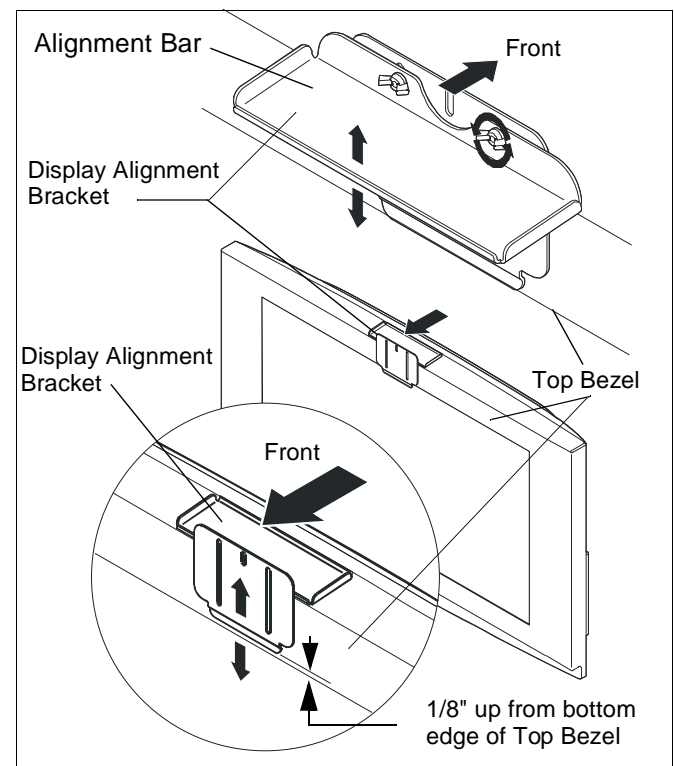

Figure 4
5. Position display alignment bracket on top of display with wing nuts facing towards rear of display and alignment bar resting on display top. (See Figure 4)
6. Loosen two wing nuts and slide mounting bracket up or down until bottom edge of bracket is positioned 1/8" up from lower edge of top bezel. (See Figure 4)